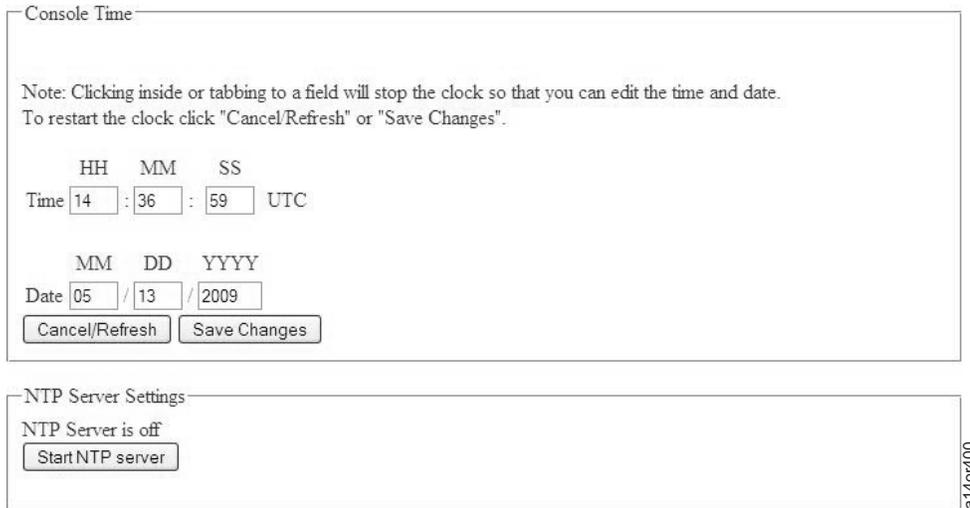

Figure 129. Console Time and Date
4. Click **Console Time**. The screen in Figure 129 on page 104 appears.